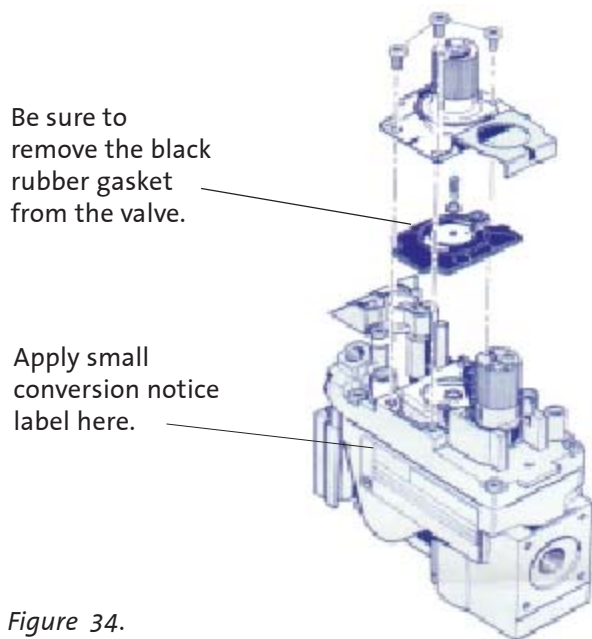

Figure 34. Valve Regulator replacement.
7. Change the Regulator: See fig. 34.
Connect the two thermostat wire leads to the two lower terminals on the terminal block located to the right of the ON/OFF/T'STAT switch. Do not overtighten the connections. IT IS NOT NECESSARY TO DISCONNECT ANY OTHER WIRES. See Figure 34.